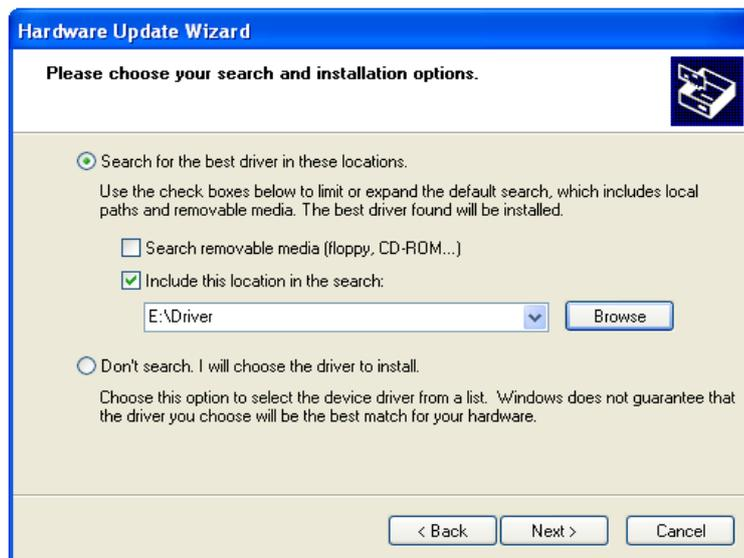

Fig. 43
- Select "Search for the best driver in these locations" and enter the file path in the combo-box to the "Driver" folder in your "TuneLa" distribution or browse to it by clicking the "Browse" button. Once the file path has been entered in the box, click "Next" to proceed (*Fig. 43*).